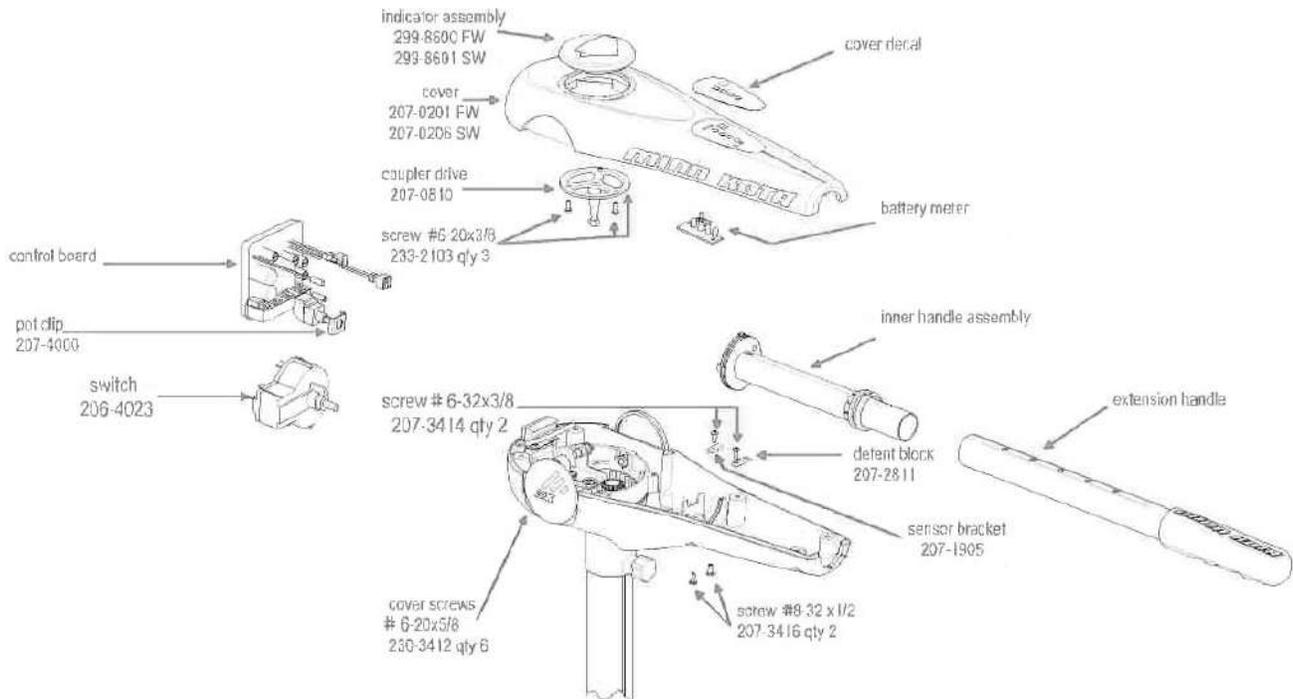

Fig. 3
- Step 1.** Start by removing the extension handle from the inner handle by pressing down on the handle by pressing down on the handle latch / detent button located on the top side of the handle near the control box. With latch button depressed, slide the extension handle off and clear of the inner handle. (see **Fig. 3, page 17-2**)
- Step 2.** Remove the six Phillips, pan head screws (#6-20 x 5/8”) located on the underside of the control box assembly. (2 screws at front, middle, and rear of control box) (see **Fig. 3, page 17-2**)
- Step 3.** Lift up the inner handle assembly along with the handle pivot, handle bearing, and potentiometer (variable-speed motors) or speed selector switch (5-speed motors). Disengage the inner handle assembly from the “D” shaft on the potentiometer/switch, remove the inner handle, and set it aside for reassembly. (see Fig. 3)
- A-2.** On variable-speed 3X models, loosen the Phillips pan head screw (P/N 2073414, #6-32 x 3/8”) holding the P/N 2071905 sensor bracket in place. (Sensor bracket is located in control box along side the potentiometer support.) Loosening the screw allows removal of the magnetic on/off reed switch attached to wires exiting the control box. (On/off reed switch is the small 5/8” long, 3/16” diameter black cylinder with 2 small black wires attached.) Then remove the two P/N 2073416, #8-32 x 1/2” socket head cap screws (located in recessed openings on the underside of the control box) using a 9/64” allen wrench/driver. The control board is then free to be removed. (see Fig. 3)
Step 10. Re-install the control board or 5-speed switch using the fasteners or parts removed during disassembly. (see Fig. 3, page 17-2)